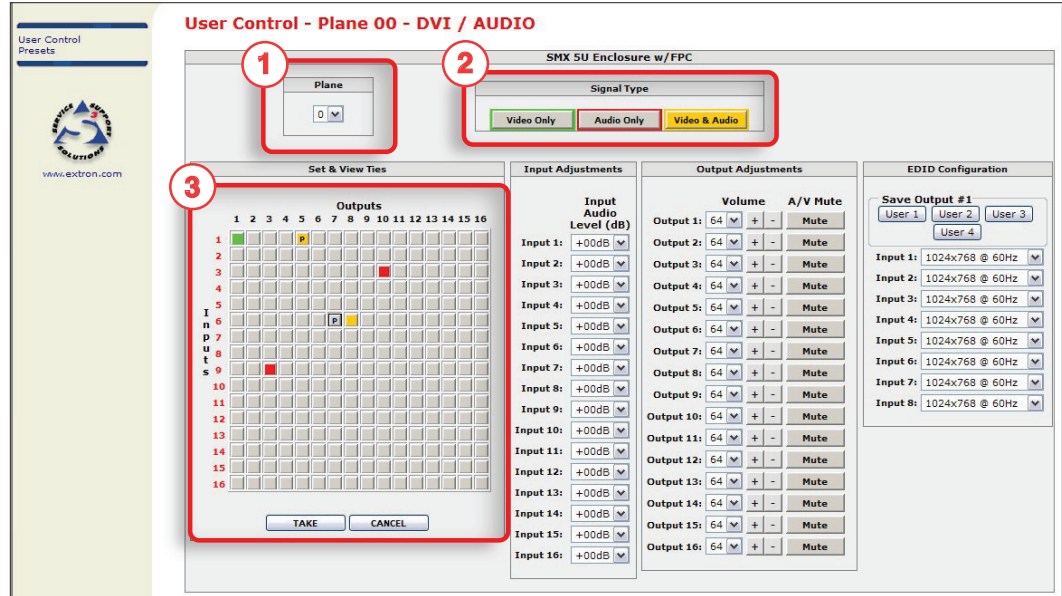

Figure 58. Control Pages — User Control Page
The User Control page emulates some of the front panel features and displays the current input-to-output ties, input audio level, output volume, A/V mute status, and current EDID settings (see **figure 58**). See **Operation** on page 13 for additional descriptions.
1. Select the desired plane from the drop-down list (see figure 58).
NOTE: When viewing the ties on the User Control page, video ties are shown green, audio ties are red, and video and audio ties amber (see figure 58).
3. Click the desired input or output button in the Set & View Ties map. The button changes color according to signal type and indicates a provisional tie with a letter “P” (see figure 58, input 6, output 7, for example).
3. Click the input or output button of the tie to be removed. The button changes color and indicates a provisional tie with a letter “P” (see figure 58).
- If a single signal tie (video or audio) is removed, or there is a combined signal (the Video & Audio signal type button is highlighted), the Video Only or Audio Only button turns gray (see figure 58, input 6, output 7).
1. In the Signal Type field (see ②, figure 58), click **Video only**, **Audio only**, or **Video & Audio**, depending on the signal type to be muted.